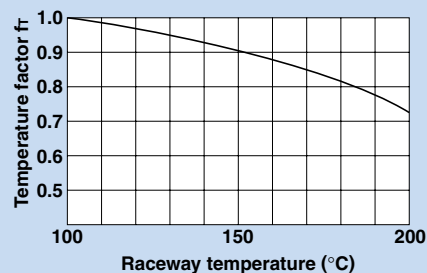

Fig. 2
- f_T : Temperature factor (see Fig. 2)